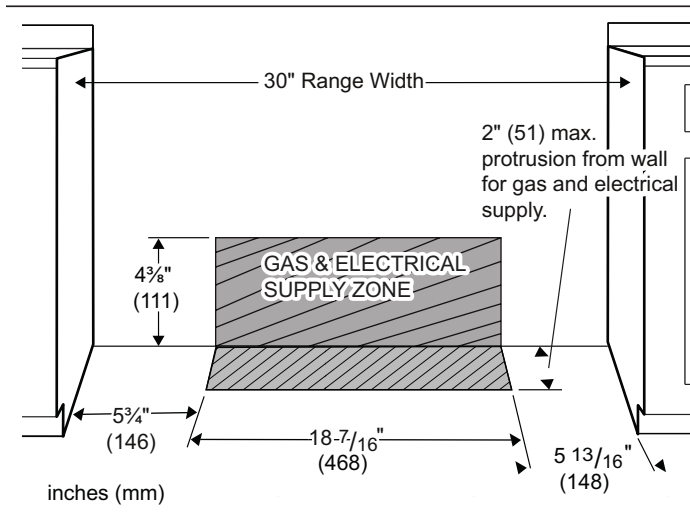

Figure 4: Gas & Electrical Supply Locations
- The gas and electrical supply should be within the zones shown in *Figure 4 on page 10*.